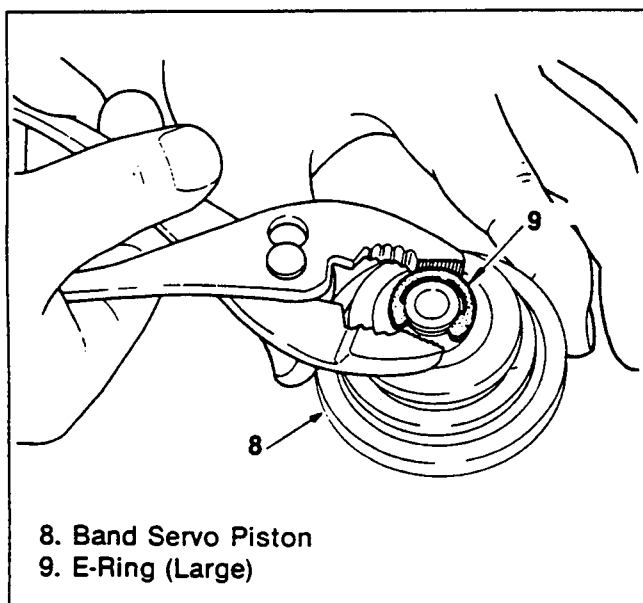

Figure 218. E-Ring Installation
2. Using pliers, attach the E-ring to the servo cushion spring retainer (figure 218).